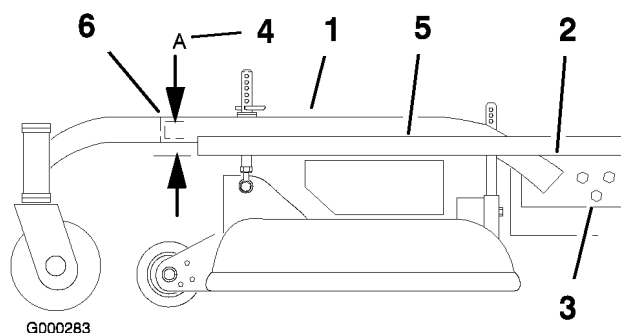

Figure 59
3. Place a long straight edge on top of the engine deck as shown in Figure 59.
4. At the carrier frame cross tube, measure the height at location **A** (Figure 59). This measurement must be 1-5/16 inch (33 mm), plus or minus a 1/4 inch (6 mm).
6. Loosen the carrier frame mounting bolts on both sides of the machine (Figure 59).
7. Align the carrier frame and engine deck to match 1-5/16 inch (33 mm), plus or minus a 1/4 inch (6 mm) at location **A** (Figure 59).